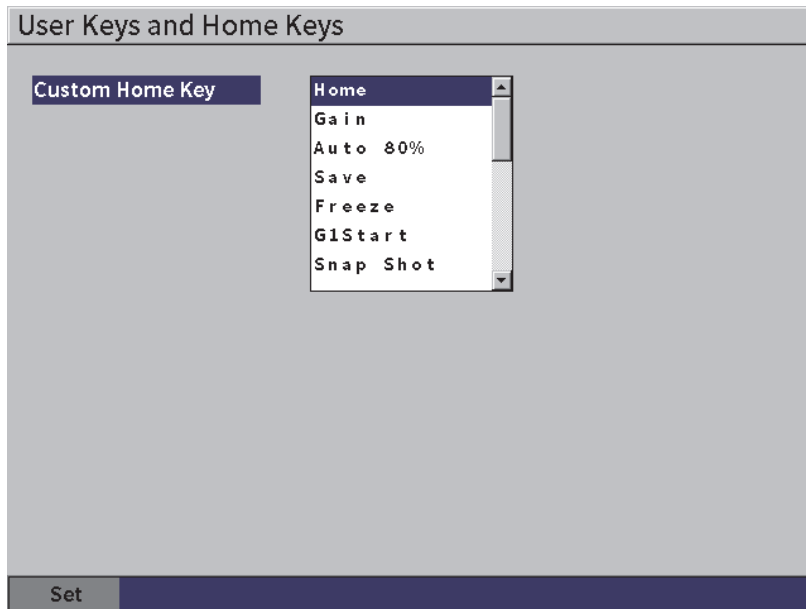

Figure 5-5 Custom User Key setup page
You can change the action of the Shift, Tab key sequence in the **User Keys and Home Keys** setup page (see Figure 5-5 on page 39).
1. Open the **User Keys and Home Keys** setup page (see Figure 5-5 on page 39).